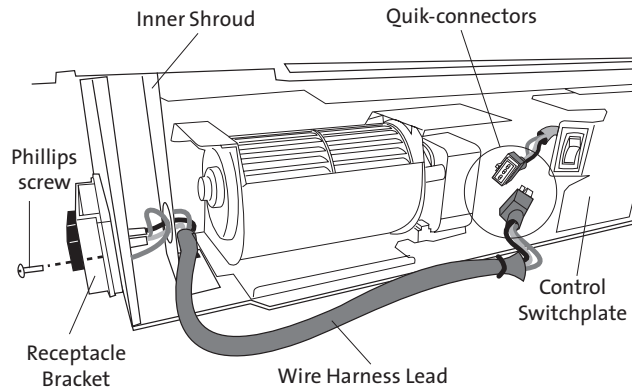

Figure 10.
2. Insert the AC power receptacle lead through the appropriate inlet in the side of the firebox. See fig. 10. Remove the #8 x 5/8" phillips screw already in place and engage the receptacle bracket with the tab in the inlet opening. Reinstall the screw.